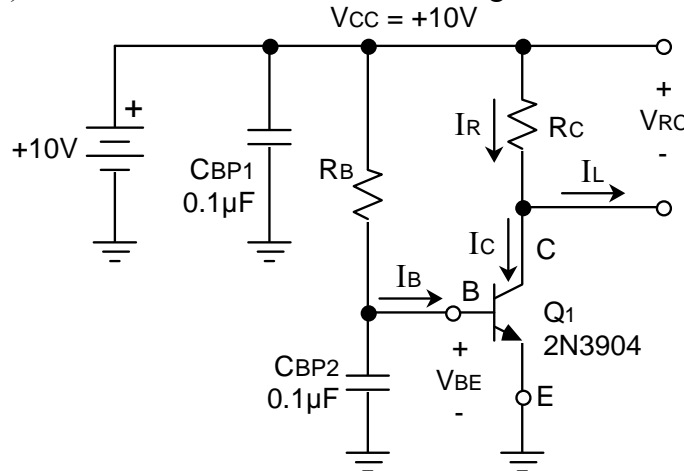

Figure 5B-1.
- L1. Build the BJT circuit shown in Fig. 5B-1, using the 2N3904 NPN BJT. By using different values for resistors R_B and R_C , you will measure the base current i_B , collector current i_C , and base-emitter voltage v_{BE} over a range of DC collector currents. BE SURE TO measure the actual voltage of the +10V power supply for V_{CC} .
- L3. Modify the circuit of Figure 5B-1 by changing the values of R_B and R_C to implement your β meter design from the prelab.